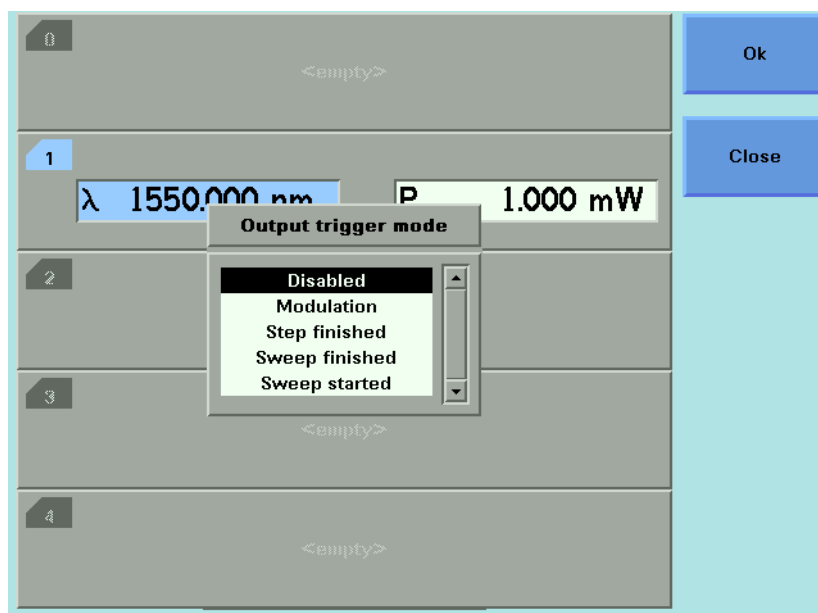

Figure 94 Output Trigger Mode
- 3 Move to *<Output Trigger Mode>*, by using the cursor key, and press *Enter*. You will see the screen in Figure 94 on page -165.